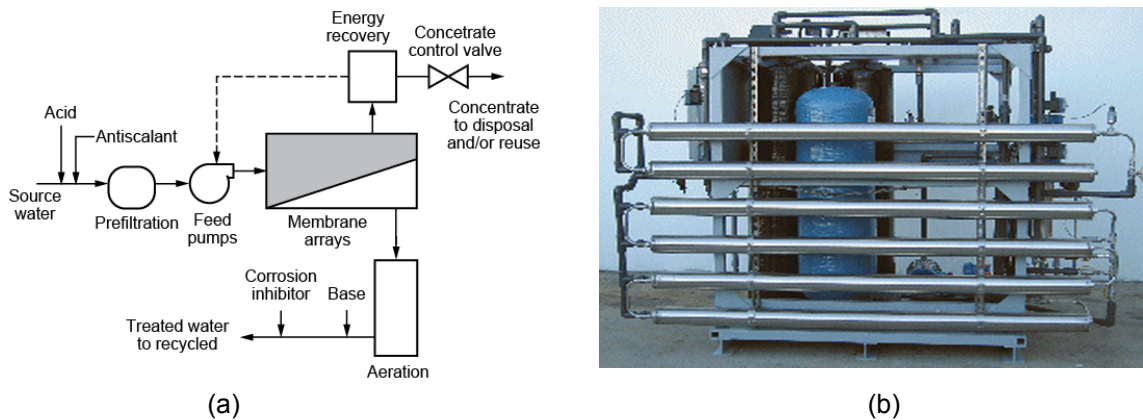

Figure 7
In the reverse osmosis (RO) process, ions are separated from water using a dense membrane. The separated ions are known as the concentrate or brine. The process effluent is purified, demineralized water suitable to reuse. In the case of tile drain water, the concentrate would consist of highly concentrated nitrate, which could be recovered. The RO system can be used to treat a portion of effluent to a high quality, which is then blended with raw effluent to discharge to the environment at the locally required water quality level. Views on a reverse osmosis process are shown on Fig. 7.